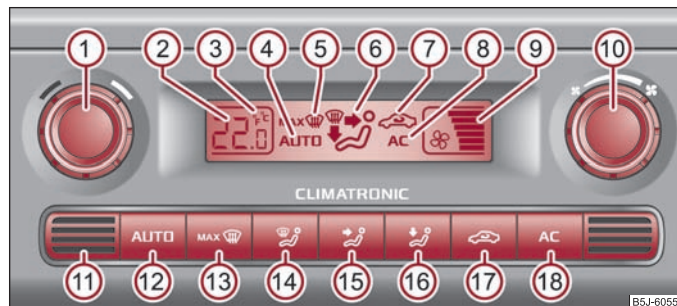

Fig. 92 Climatronic: Control elements
- Press the button **AUTO** ⇒ fig. 92.
Press and hold the buttons **AUTO** and **AC** ⇒ fig. 92 at the same time. The information in the desired temperature measuring unit appears in the display.
- Press the button **MAX** ⇒ page 87, fig. 92.
- Turn the control dial ⑩ ⇒ page 87, fig. 92 to the left (reduce blower speed) or right (increase blower speed).